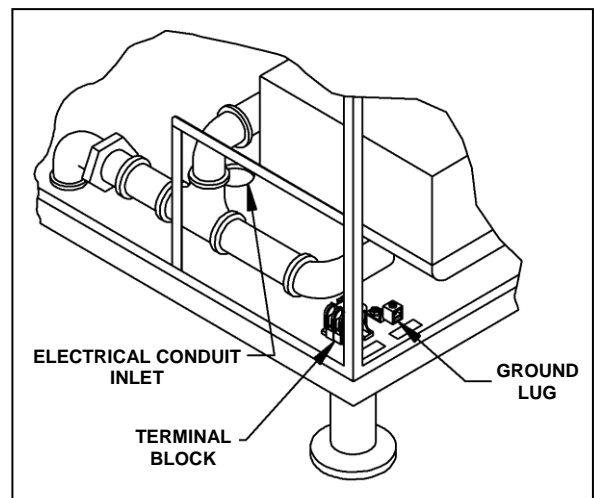

Figure 2-10, Electrical Connections
- d. Refer to the connection diagrams in Figure 2-10 and connect the wires to the terminal block and ground connector accordingly.